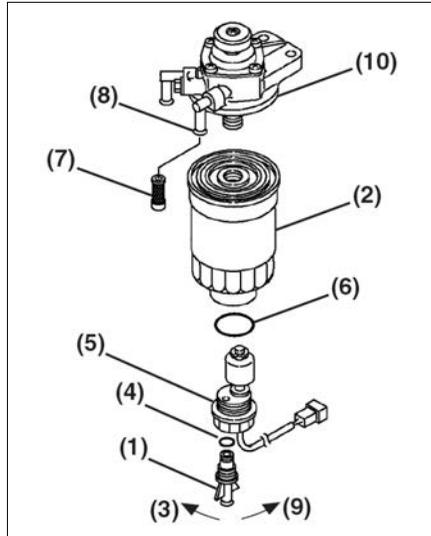

Figure 5-15
5. Carefully open the drain plug (Figure 5-15, (1)) to drain fuel from the fuel filter.
7. Remove the drain plug (Figure 5-15, (1)) from the fuel filter (Figure 5-15, (2)) by turning it to the left (Figure 5-15, (3)).
8. Check the condition of the drain plug O-ring (Figure 5-15, (4)). Replace the O-ring if damaged.
10. Remove the fuel filter sensor assembly (Figure 5-15, (5)) by turning it to the left (Figure 5-15, (3)).
11. Carefully remove the in-line fuel filter (Figure 5-15, (7)) from the output nipple (Figure 5-15, (8)) that goes to the fuel injection pump.
13. Carefully install the new in-line fuel filter (Figure 5-15, (7)) into the output nipple (Figure 5-15, (8)).
14. Carefully install the fuel filter sensor assembly (Figure 5-15, (5)) in the new fuel filter using the new O-ring supplied with the fuel filter (Figure 5-15, (2)) by turning the fuel filter sensor assembly to the right (Figure 5-15, (9)).
15. Install the drain plug (Figure 5-15, (1)) on the new fuel filter (Figure 5-15, (3)) by turning the drain plug to the right (Figure 5-15, (8)). Hand tighten only.
16. Clean the fuel filter mounting surface (Figure 5-15, (10)) and apply a small amount of diesel fuel to the gasket of the new filter.